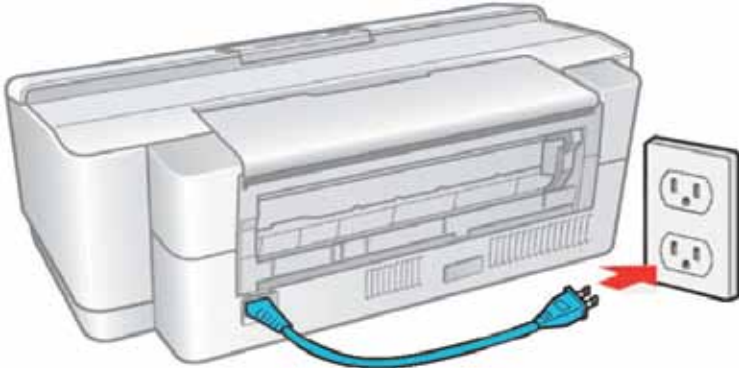

Figure 1
1. Plug the **Power Cable** into the **Printer** and the appropriate power outlet. (Figure 1.)